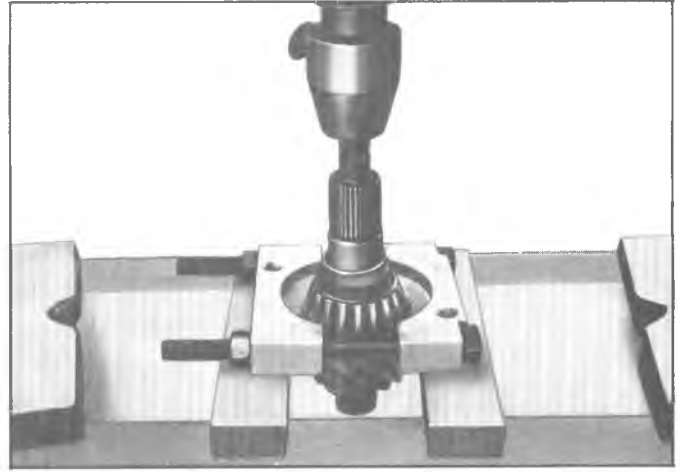

Fig. 11E—Removing Pinion Rear Bearing
8. To remove the rear bearing, use J-22912 as shown in figure 11E.